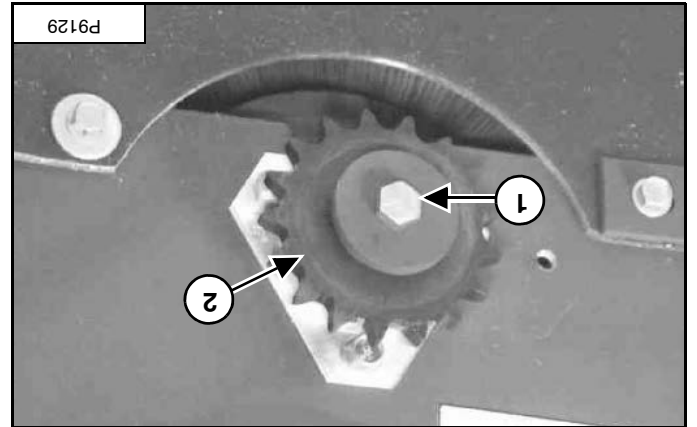

Figure 122
Remove the bolt (item 1) [Figure 122] and washer from the end of the broom shaft.
Remove the sprocket (item 2) [Figure 122].